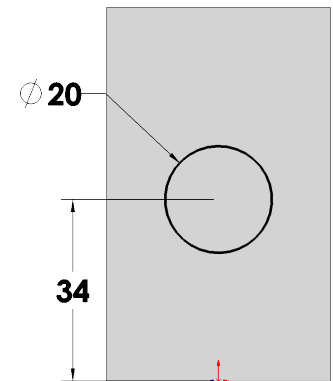

Fig. 10
Step 7. Click **Smart Dimension**  (S) on the Sketch toolbar.
Step 8. Add dimensions, **Fig. 10**.